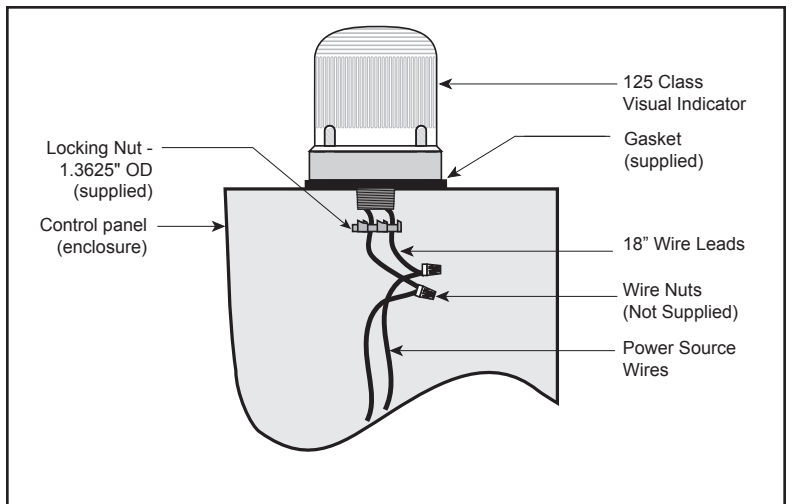

Figure 2. Panel Mounting
Panel Mounting (Figure 2)
3. Using wire nuts (not supplied), connect the signal's wire leads as shown in Figure 2. Polarity must be observed.
Panel Mounted Modules: Disconnect wiring and remove locking nut that secures the base to the panel (Figure 2).